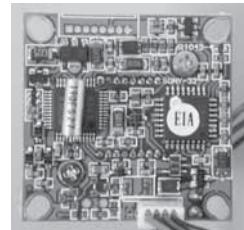

Figure 6
**FIXED AND FIXED VARI-FOCAL LENSES.** There are no user adjustable settings on these units (**Figure 6**).